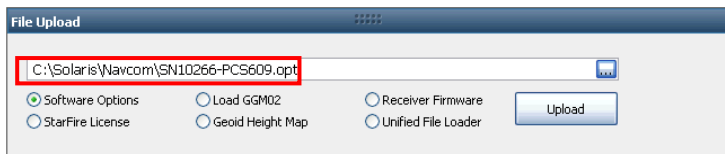

Figure 27: Software Options Upload
52. Select the Software Options file. The path to the file appears in the upload field (see Figure 27).